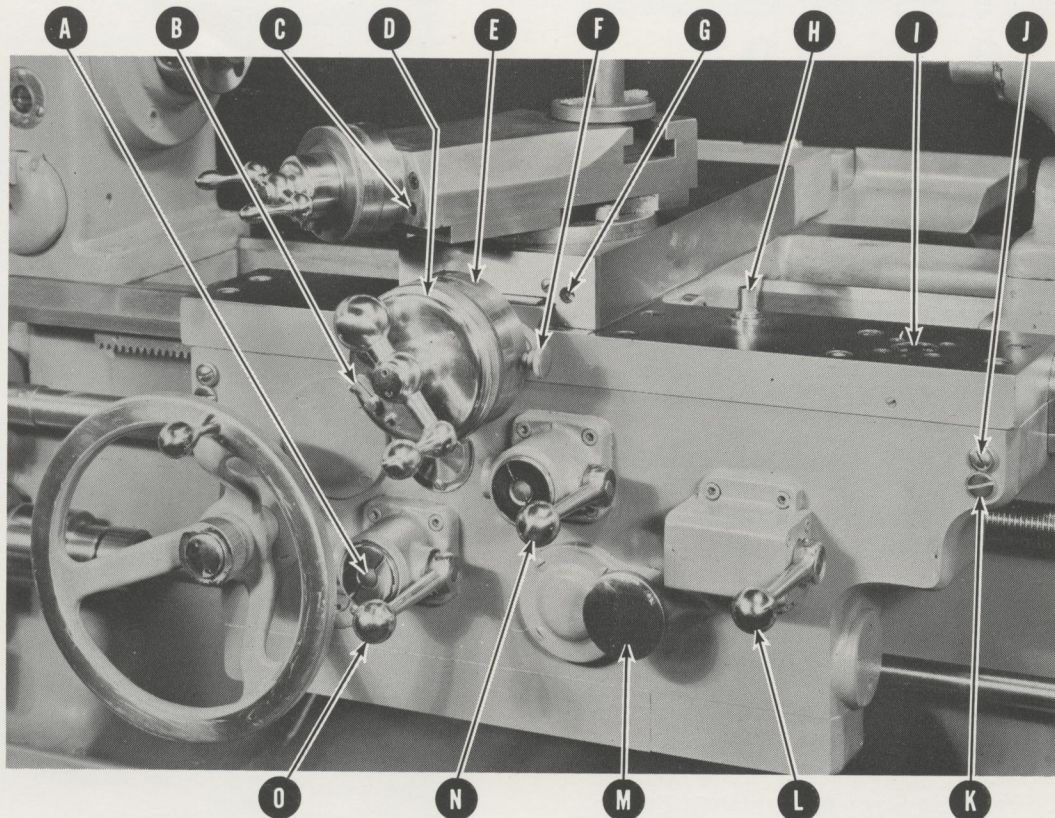

FIGURE 7. Apron and Carriage
Figure 7 shows the operating controls of the apron and carriage.
<p>2. Apron Frictions</p>	<p>Clockwise rotation of nut (A) Figure 7, Page 6, tightens the friction. It should be adjusted so that the lever becomes tight at about a 45° angle down. The cross feed friction is adjusted in the same manner.</p>
<p>3. Cross slide and Compound Slide Gibs</p>	<p>Screws (G) and (C) Figure 7 are for adjustment of the cross slide and compound gibs. There is a similar screw adjustment at the rear of each slide.</p> <p>The gibs should be adjusted to give a slight drag to the slides. If the adjusting screws are drawn too tightly against each end of the gib, they may create a bad bearing surface by throwing the gibs out of alignment.</p>
<p>5. Anti-Friction Carriage Gibs</p>	<p>Loosen lock screw (J) Figure 7 and turn eccentric stud (K) until anti-friction bearing just rolls as carriage is moved along bedways. Do not adjust too tight. Tighten lockscrew.</p>